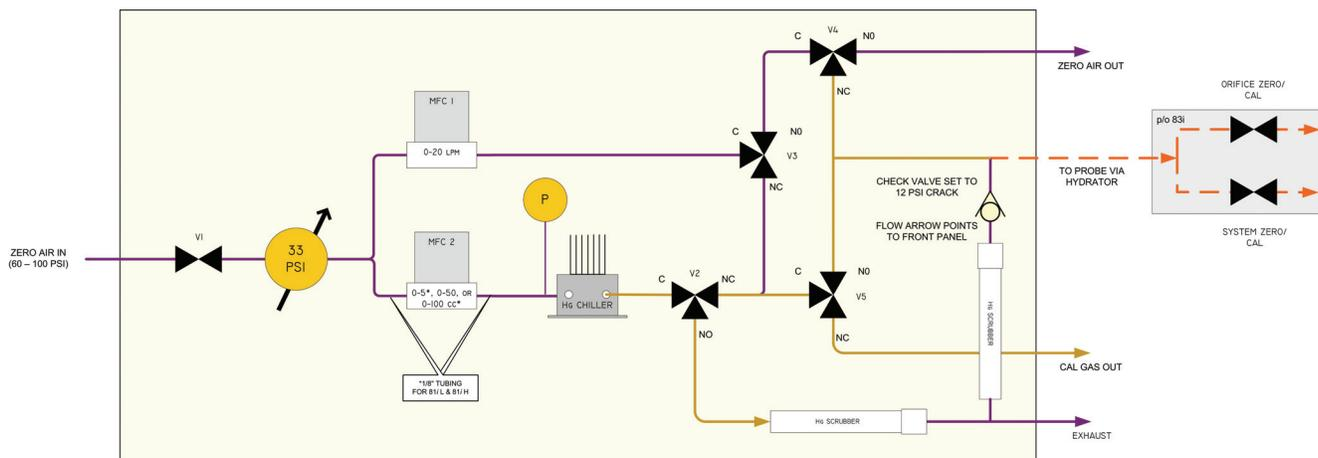

Figure 1–1. Model 81i Flow Schematic
Table 1–1 shows the Model 81*i* solenoid valve status for the different calibrator modes. Use this table along with **Figure 1–1** when reading the principle of operation description that follows. Note that a valve status shown as ON describes a valve that is energized, or in the Normally Closed (NC) state. A valve status shown as OFF describes a valve that is de-energized, or in the Normally Open (NO) state.
Clean, dry, Hg-free pressurized air (30–40 psig) feeds both a high flow (0–20 slpm) dilution air mass flow controller (MFC) and the Hg source MFC (Low 0–5, Standard 0–50, High 0–100 sccm). See **Figure 1–1**.